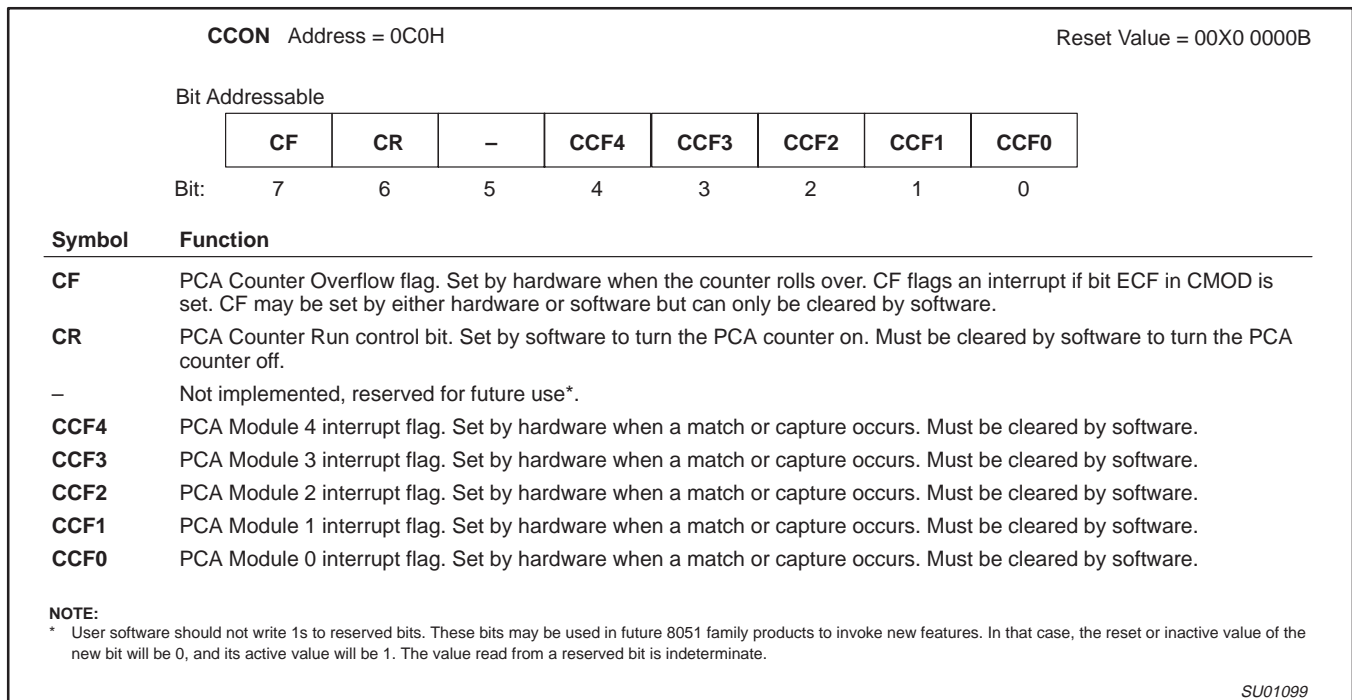

Figure 18. CCON: PCA Counter Control Register
The CCON SFR contains the run control bit for the PCA and the flags for the PCA timer (CF) and each module (refer to Figure 18). To run the PCA the CR bit (CCON.6) must be set by software. The PCA is shut off by clearing this bit. The CF bit (CCON.7) is set when